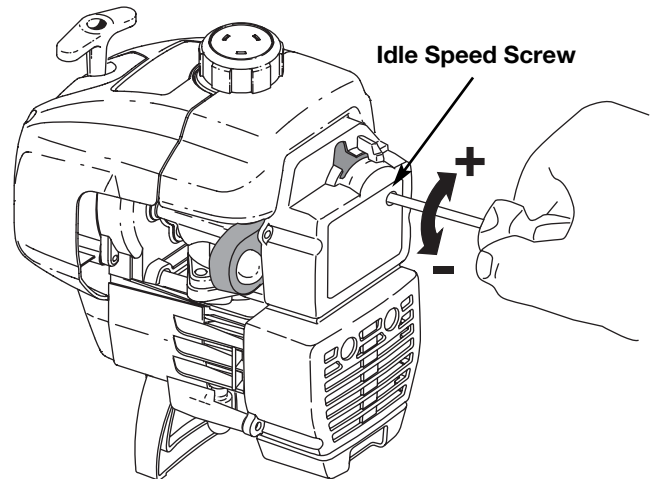

Fig. 38
The idle speed of the engine is adjustable through the air filter/muffler cover (Fig. 38).
- Release the throttle trigger and let the engine idle. If the engine stops, insert a small phillips or flat blade screwdriver into the hole in the air filter/muffler cover (Fig. 38). Turn the idle speed screw in, **clockwise**, 1/8 of a turn at a time (as needed) until the engine idles smoothly.